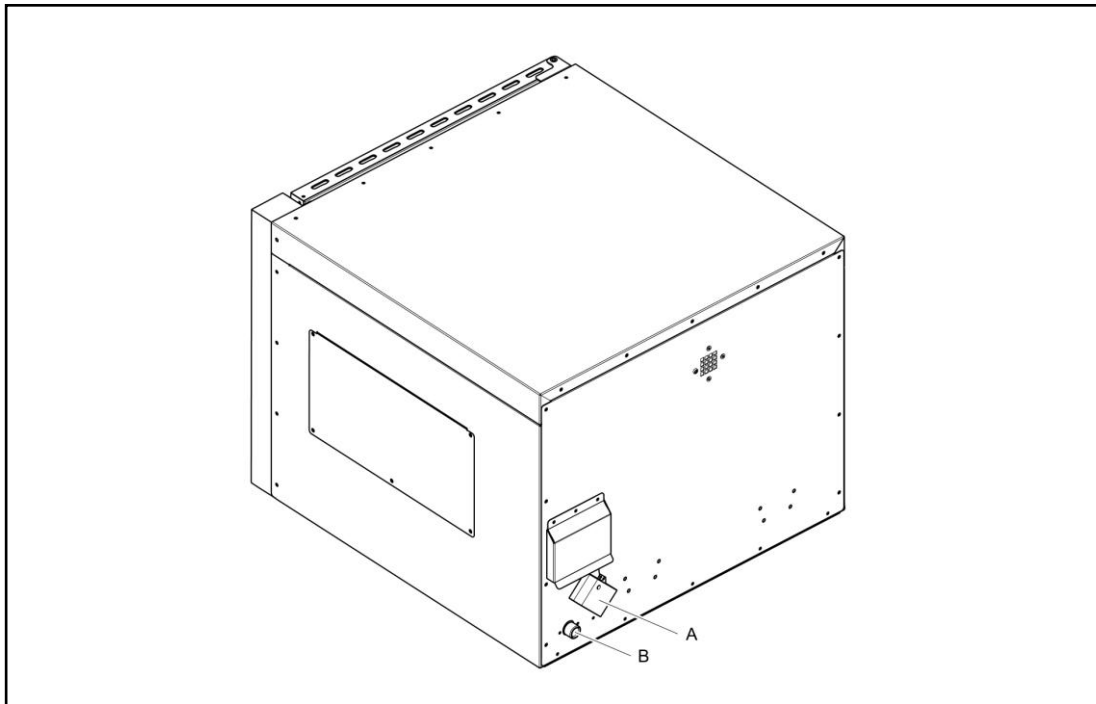

Fig 2
The ECO9 electrical inlet (A) and water supply valve (B) are shown in Fig 2. The ECO8 has the water supply valve on the opposite side. The water supply pressure must be from 0.2-10 bar (20kPa-1,000kPa). Screw one end of the connection hose to the back of the oven and the other to your water supply tap. Use the hose set supplied with the appliance – old hose sets are not to be re-used.